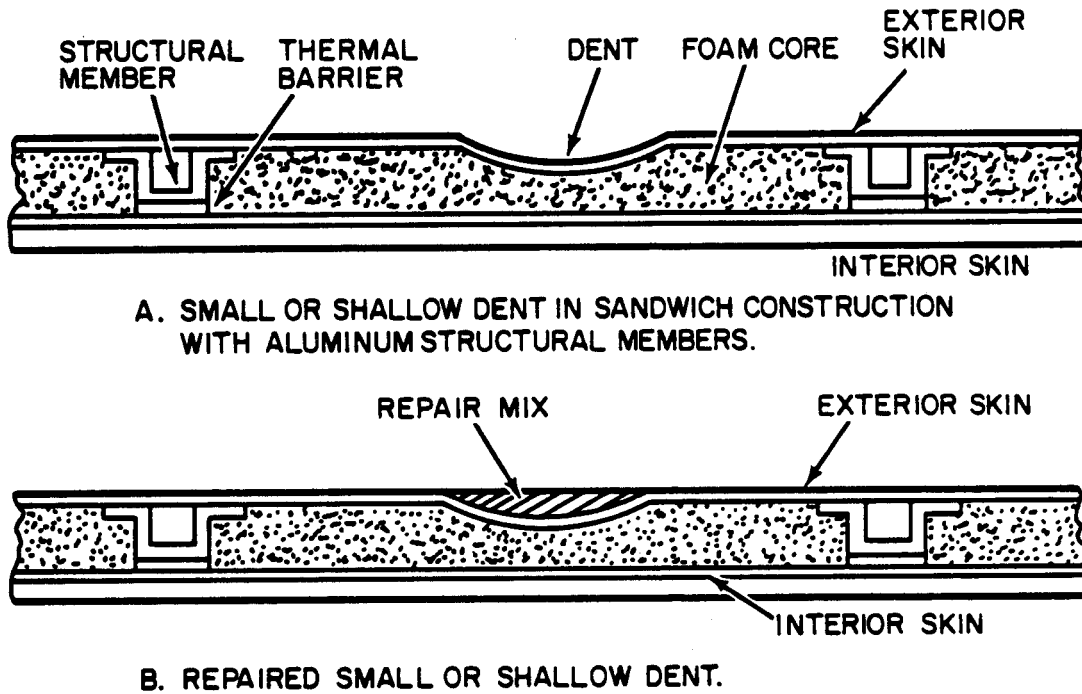

Figure 4-2. Shelter Wall Repair of Small Dent.
Repair. (Figure 4-2)
- (1) Remove all paint or foreign matter from the dent (A, Figure 4-2), and an area approximately three inches wide around the dent, with emery cloth and cleaner.
- (2) Roughen the skin surface with coarse grit emery cloth. Be sure that the area is completely clean. Do not touch the area with hands or wipe with an oily cloth.
- (3) Fill the dent and smooth out evenly as shown in B, Figure 4-2, using any fiber filled polyester resin (body putty).
- (4) Allow the repair mix to set thoroughly in accordance with the manufacturer's recommendations.
- (5) Sand off excess material flush with the contour of the skin surface.
- (6) Prime and paint the repaired surface. (Refer to paragraph 4-2.)